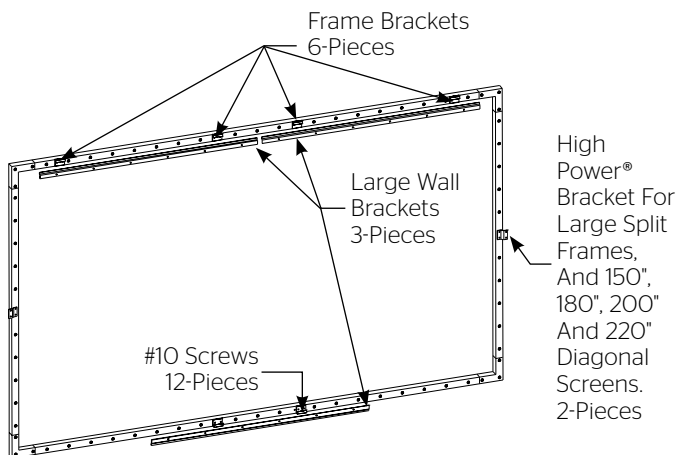

Figure 8
1. Use the supplied #10 screws to attach six frame brackets to the back of the frame as shown in Figure 8.
4. For 150", 180", 200", 220" and larger screens with 2-piece side frame rails you will need to attach one High Power® bracket to each side frame rail. Use the black #10 screws supplied. See Figure 8.